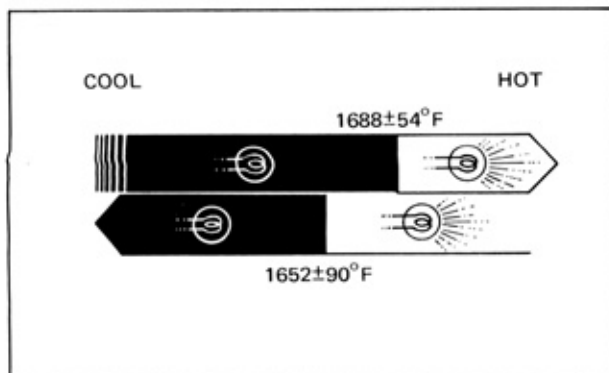

Fig. 9-4 Temperature Range
- (3) Turning the ignition switch to the "START" position will close the warning light inspection circuit. Thus, the warning light will turn on when the starter is revolving to allow checking the light to see that it operates properly.
- (4) The warning light operation temperature range is shown in Fig. 9-4.